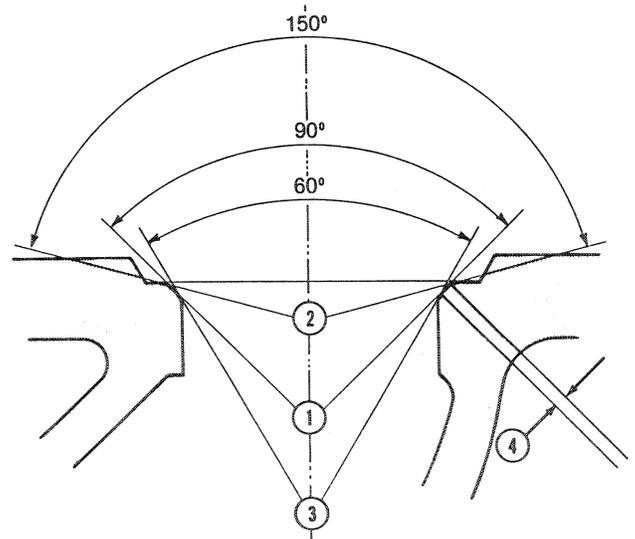

FIGURE 1-35
Examine the valve seats and reface if worn or damaged. Valve seat grinding requires that the seat be ground to the correct width and established in the proper position as shown, Figure 1-35.
2. Check the seat width, Figure 1-35.